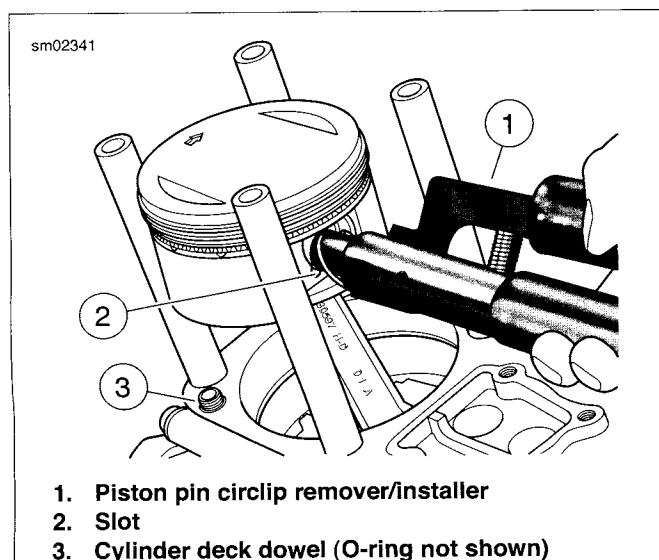

Figure 3-32. Pin Circlip Remover/Installer (Part No. HD-42317)
- d. See Figure 3-32. Insert the tool (1) into the piston pin bore until claw is aligned with slot (2) in piston.
1. See Figure 3-32. Apply a very thin film of clean H-D 20W50 engine oil to **new** O-rings for both lower cylinder deck dowels. Install and verify that O-ring is properly seated in groove.